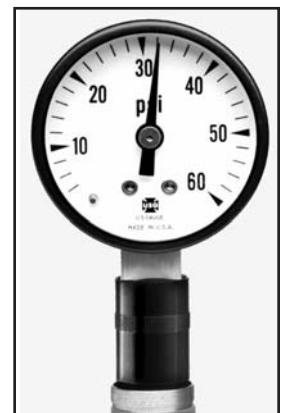

Figure 1
2. Adjust the delivery system drive air pressure to obtain a minimum of 32 psi (220 kPa) at the handpiece end of the swivel coupler. Safe maximum drive air pressure is 40 psi (275 kPa). **Figure 1**